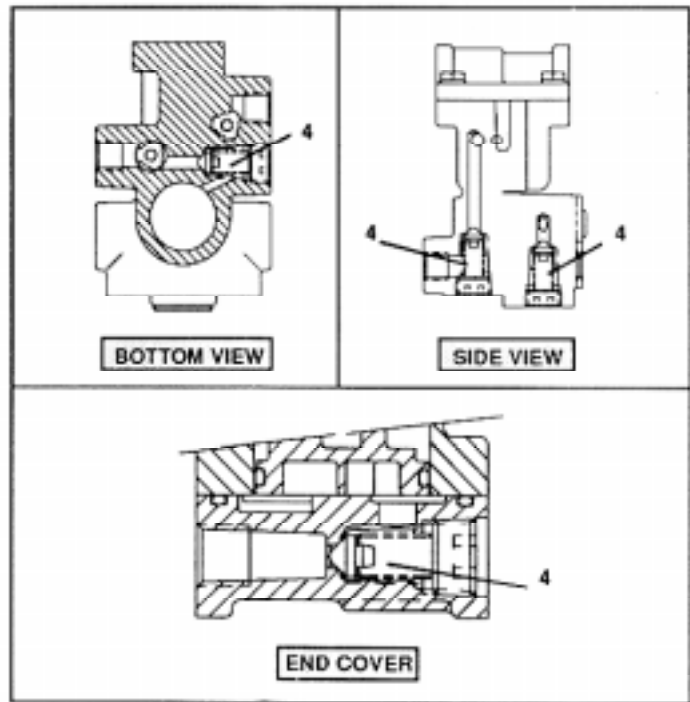

FIGURE 2 – LOCATION OF 4 CHECK VALVE ASSYS.
2. With a pair of pliers, grasp the raised surface of the two piston assemblies(3) and remove them from the valve body housing.
3. Refer to Fig. 2. With a 5/16 inch Allen Wrench, remove the four 3/8 inch pipe plugs from the SR-4. (Three are in the main body and one is in the end cover). Trailers without anti-compounding feature will not have a check valve in the end cover. Remove the four check valve assemblies(4), one under each of the 3/8 inch pipe plugs.
4. Remove the four cap screws that retain the end cover to the main body. Remove the end cover from the body. Remove the sealing ring(5) from the end cover.
5. Remove the large piston from its bore by grasping the web with a pair of pliers and pulling. Remove the spring(6) from the base of the bore. Remove the o-rings (7 & 8) from the piston.
6. Remove the check valve assembly from the main body by lightly clamping the body in a vise and turning the check valve assembly counterclockwise with a 1-1/4 inch end wrench. Remove the spring(9) and the inlet/exhaust valve(10) from the housing. Remove the o-ring(11) from the O.D. of the check valve assembly.
7. With a pair of I. D. snap ring pliers, remove the snap ring in the end of the check valve assembly. Remove the spring seat, the conical spring(12) and the check valve(13).
1. Install diaphragm(14) into the exhaust port of the SR-4 valve. Retain with the diaphragm washer and Phillips head screw. Tighten securely.
2. Twist the conical spring(12) onto the spring seat and the opposite end onto the check valve(13), install this subassembly into the check valve housing, depress the spring seat and install the snap ring making sure it is fully seated in its groove.
3. Install the inlet/exhaust valve(10) into the RES-1 port making sure the flat side of the valve is against the inlet seat. Install spring(9) into the valve making sure it is installed over the rubber protrusion of the valve(10).
4. Install the o-ring(11) into its groove on the check valve assembly. Thread the check valve assembly into the RES-1 port. Lightly clamp the SR-4 valve body in a vise and using a 1-1/4 inch end wrench torque to 150-400 in. lbs.
5. Place the spring(6) into the large bore of the SR-4 body making sure it is seated in the base of the bore. Install the o-rings(? & 8) onto the piston. Place the piston into the housing with the small end inside of the spring(6).
6. Install the sealing ring(5) into its groove on the end cover. Install the end cover over the piston, installed in Step 5, with the trailers supply port oriented towards the exhaust port. Retain with the four 1/4 inch cap screws, torque to 30-60 in. lbs.
7. Refer to Fig. 2. Install the four check valve assemblies(4) into the cavities of the SR-4 valve and retain with the 3/8 inch pipe plugs. Removed in Step 3 of "Disassembly". Apply a thread sealant or Teflon tape to the threads of the pipe plugs and torque to 130-170 in. lbs.
8. Install the two piston assemblies(3) into their cavities, place the spring(1 & 2) over the bosses of the piston assemblies. **CAUTION: THE SPRING COLOR CODED WHITE MUST BE INSTALLED ON THE PISTON CLOSEST TO THE END COVER AND THE GREEN COLOR CODED SPRING ON THE PISTON AWAY FROM THE END COVER.** Place the spring retainers over the springs and retain with the eight #10 cap screws. Torque to 20-30 in. lbs.